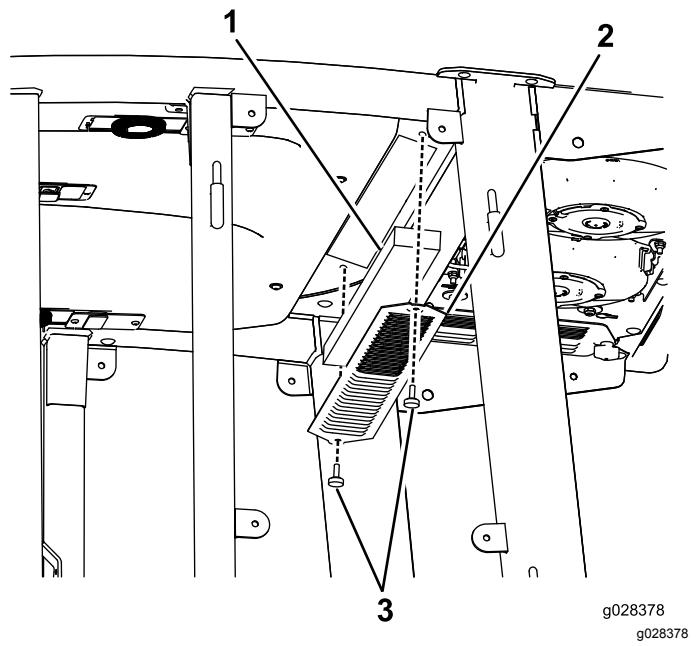
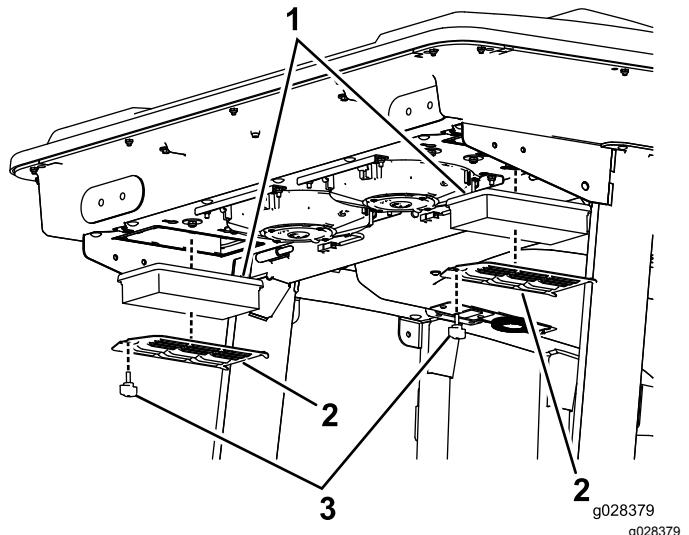
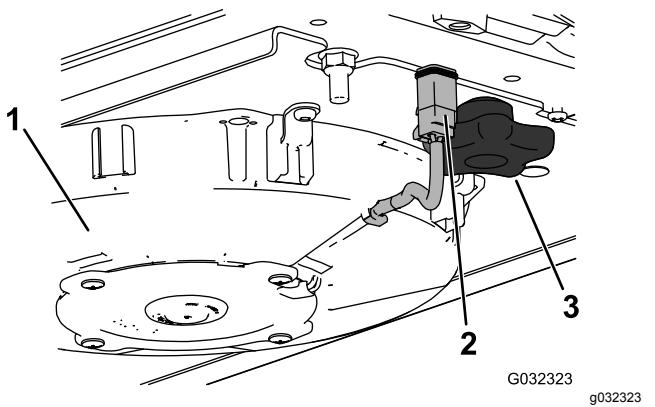
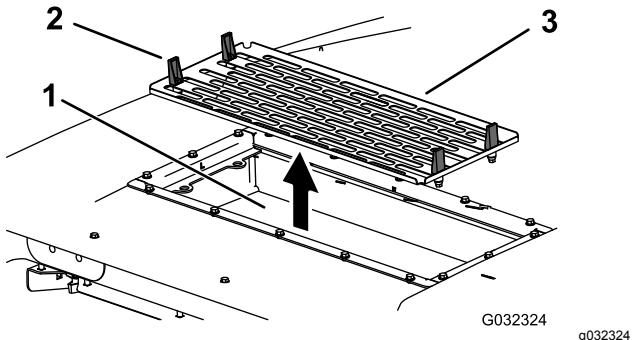

Figure 135
Figure 136
Figure 138
Figure 139
1. Remove the screws and grates from both the in-cab and rear cab air filters (Figure 135 and Figure 136).
4. Open the 4 latches on the air-conditioning assembly and remove the screen (Figure 139).
5. Remove the air filters (Figure 136).
7. Install the air filters, screen, and fan assembly (Figure 136, Figure 138, and Figure 139).
8. Connect the wire for each fan (Figure 138).
2. Disconnect the wire for each fan (Figure 138).